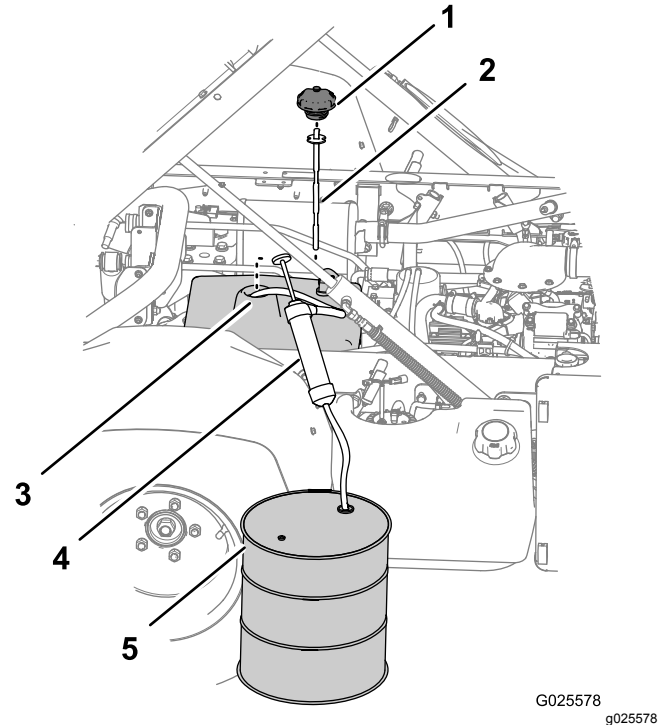

Figure 82
3. Remove the cap and dipstick from the filler neck of the hydraulic tank (Figure 82).
4. Route the intake hose of the siphoning equipment through the filler neck of the hydraulic tank and to the bottom of the tank (Figure 82).
5. Direct the discharge hose of the siphoning equipment into a collection container (Figure 82) with a 11.4 L (3 US gallon) capacity—Non-TC model or 18.9 L (5 US gallon) capacity—Non-TC
7. Remove the siphoning equipment from the hydraulic tank (Figure 82).
8. Add 7.5 L (2 US gallons)—Non-TC model or 15.1 L (4 US gallons)—Non-TC model with the High Flow Hydraulic Kit (option) or TC model of the specified hydraulic fluid into the hydraulic tank (Figure 82).
9. Install the dipstick and cap to the filler neck of the hydraulic tank (Figure 82).